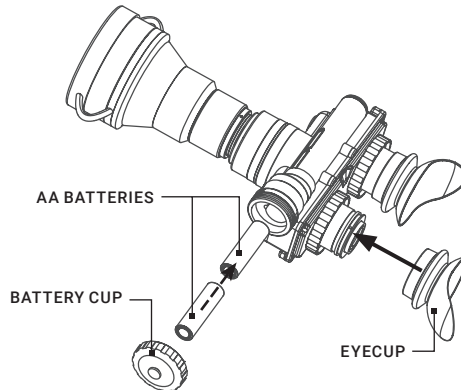

FIGURE 2-1. BATTERY AND EYE CAP INSTALLATION
3. Following the polarity markings on the outside of the battery compartment, insert two AA (1.5V) batteries into the battery compartment, positive (+) end first (see Figure 2-1).4. Secure the battery cap back on by placing it over the compartment and turning it clockwise. Verify that it is secure to ensure a watertight seal.
To install the eyecups (refer to Figure 2-1):